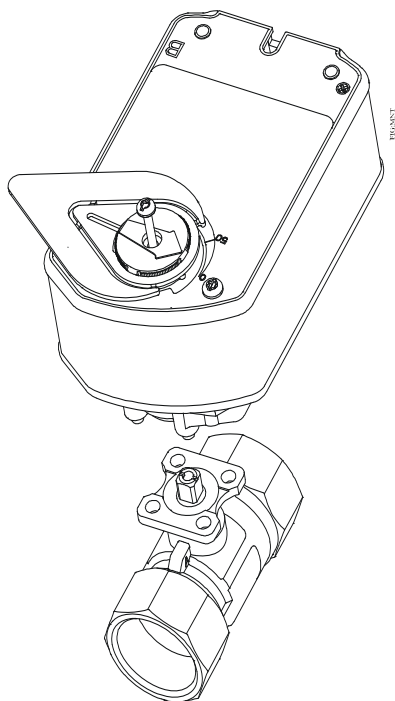

Figure 15: Mount the Actuator
7. Install the actuator on the ball valve (Figure 15). Tighten the actuator mounting screw to a torque of 10 to 12 lb-in. (1.1 to 1.4 N·m) and snap the large adjustable pointer into place.